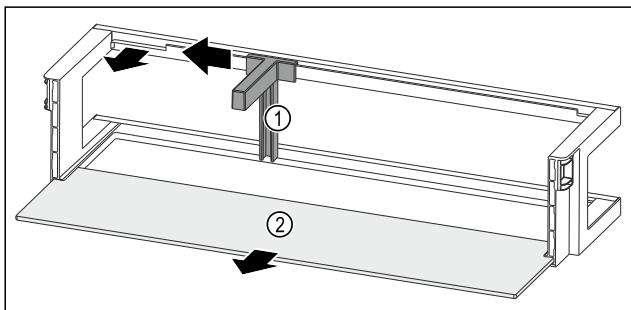

Fig. 173 Door rack with bottle holder and shelf
- ▶ Slide the bottle holder Fig. 173 (1) to the side as far as the recess.
- ▶ Remove the bottle holder Fig. 173 (1).
- ▶ Remove the shelf Fig. 173 (2).